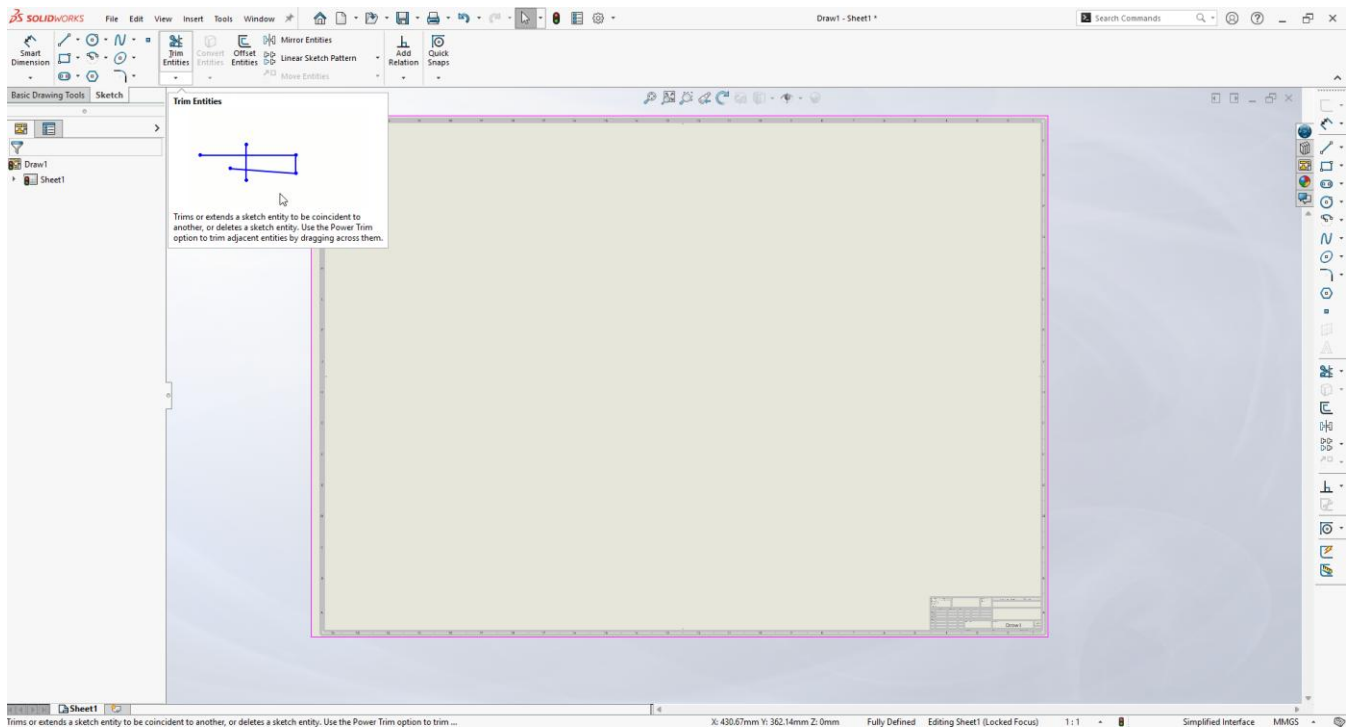

Figure 2.34: Location of Trim Tool
3. Trim Entities: This command is used to remove extra or overlapping sketch lines (Figure 2.34).